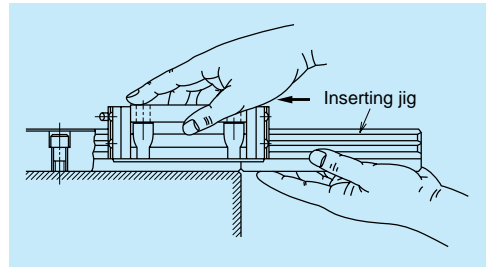

Fig. II-9-27
- If it is unavoidable to remove ball slide from the rail, make certain to use a provisional rail (a tool used to insert a ball slide to the rail) as shown in Fig. II-9-27.